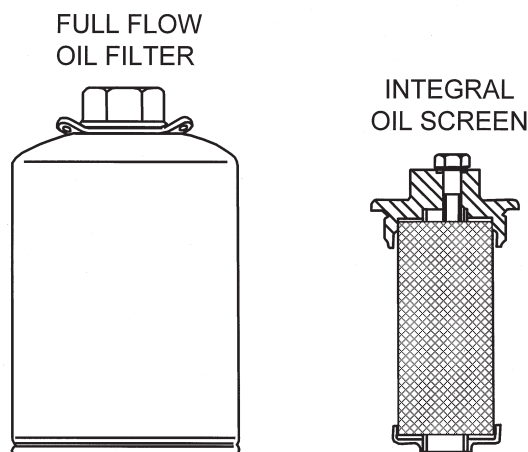

Figure 6-23. Disposable Oil Filter and Integral Screen
Engines covered in this manual are equipped with either a screw-on, disposable oil filter or an integral screen (Figure 6-23). Maintenance pertaining to the filter media is listed in the “Engine Inspection and Maintenance Schedule” in Section 6-2. To change disposable filters, follow the instructions in step a; for the integral screen, follow the instructions in step b.
- b. If the engine is equipped with an integral oil screen (Figure 6-23), cut the safety wire from the oil screen and remove the fastening hardware. The integral screen is not disposable, rinse the integral screen with mineral spirits over filter paper to clean the media. Use a magnet to differentiate the ferrous materials from non-ferrous particulate.